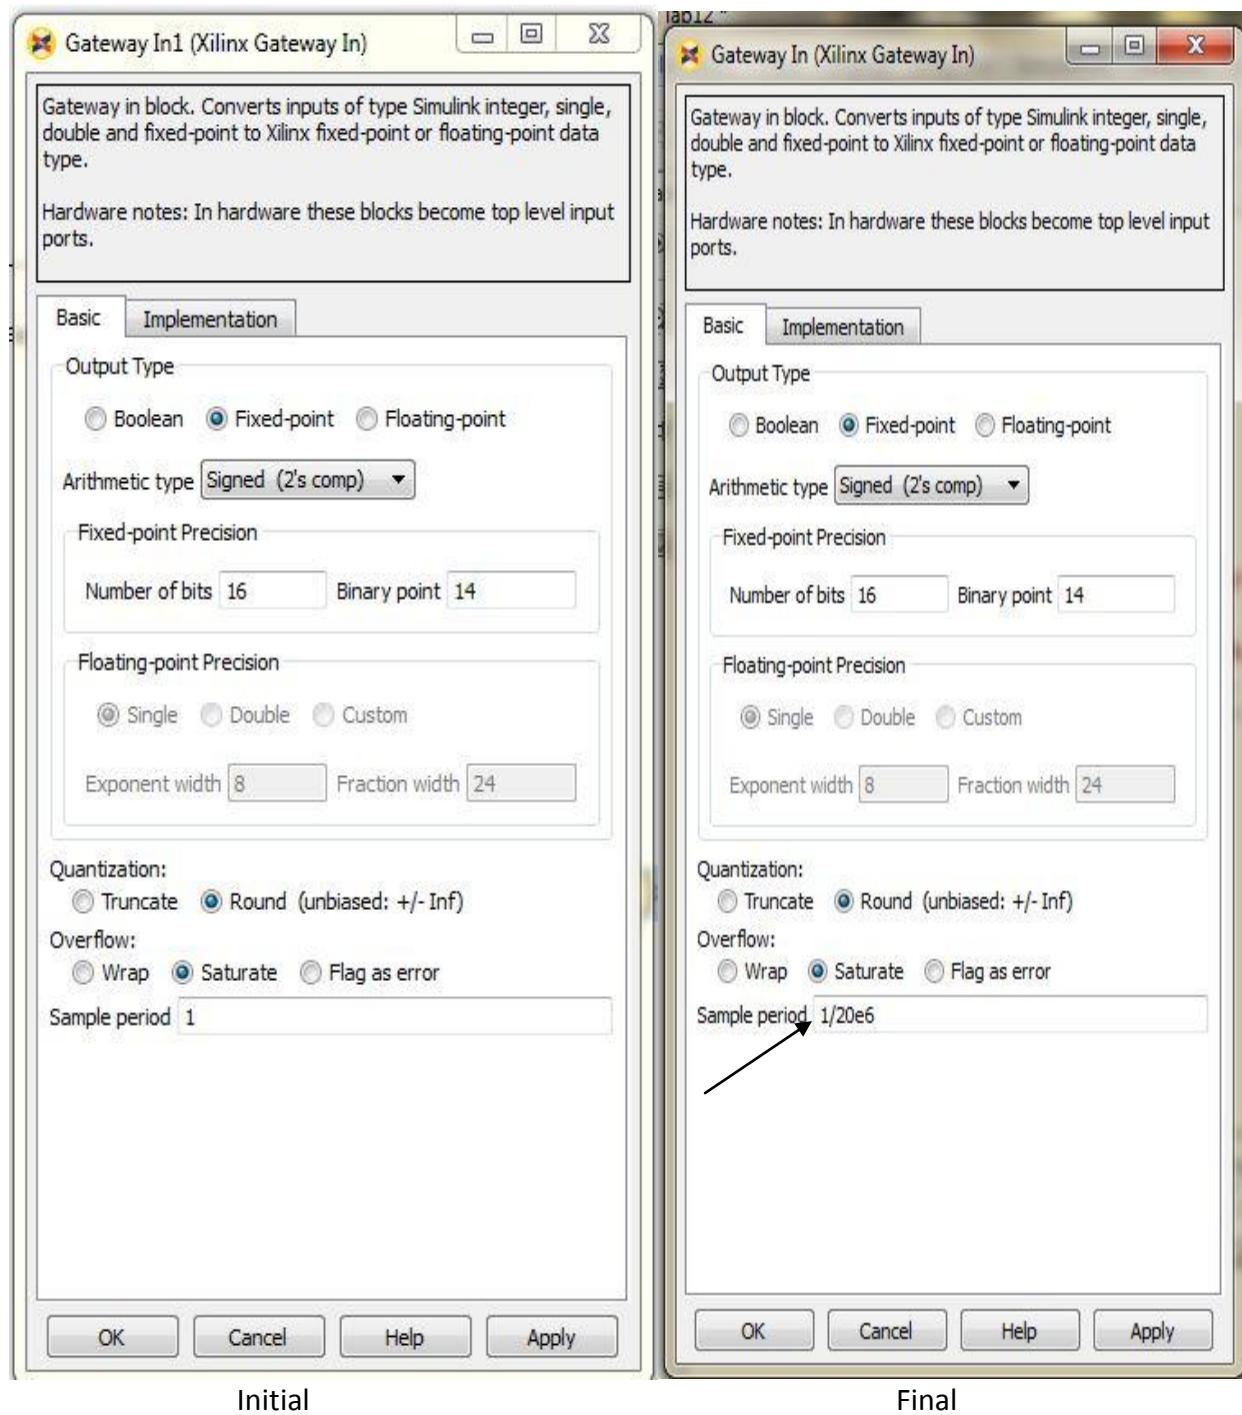
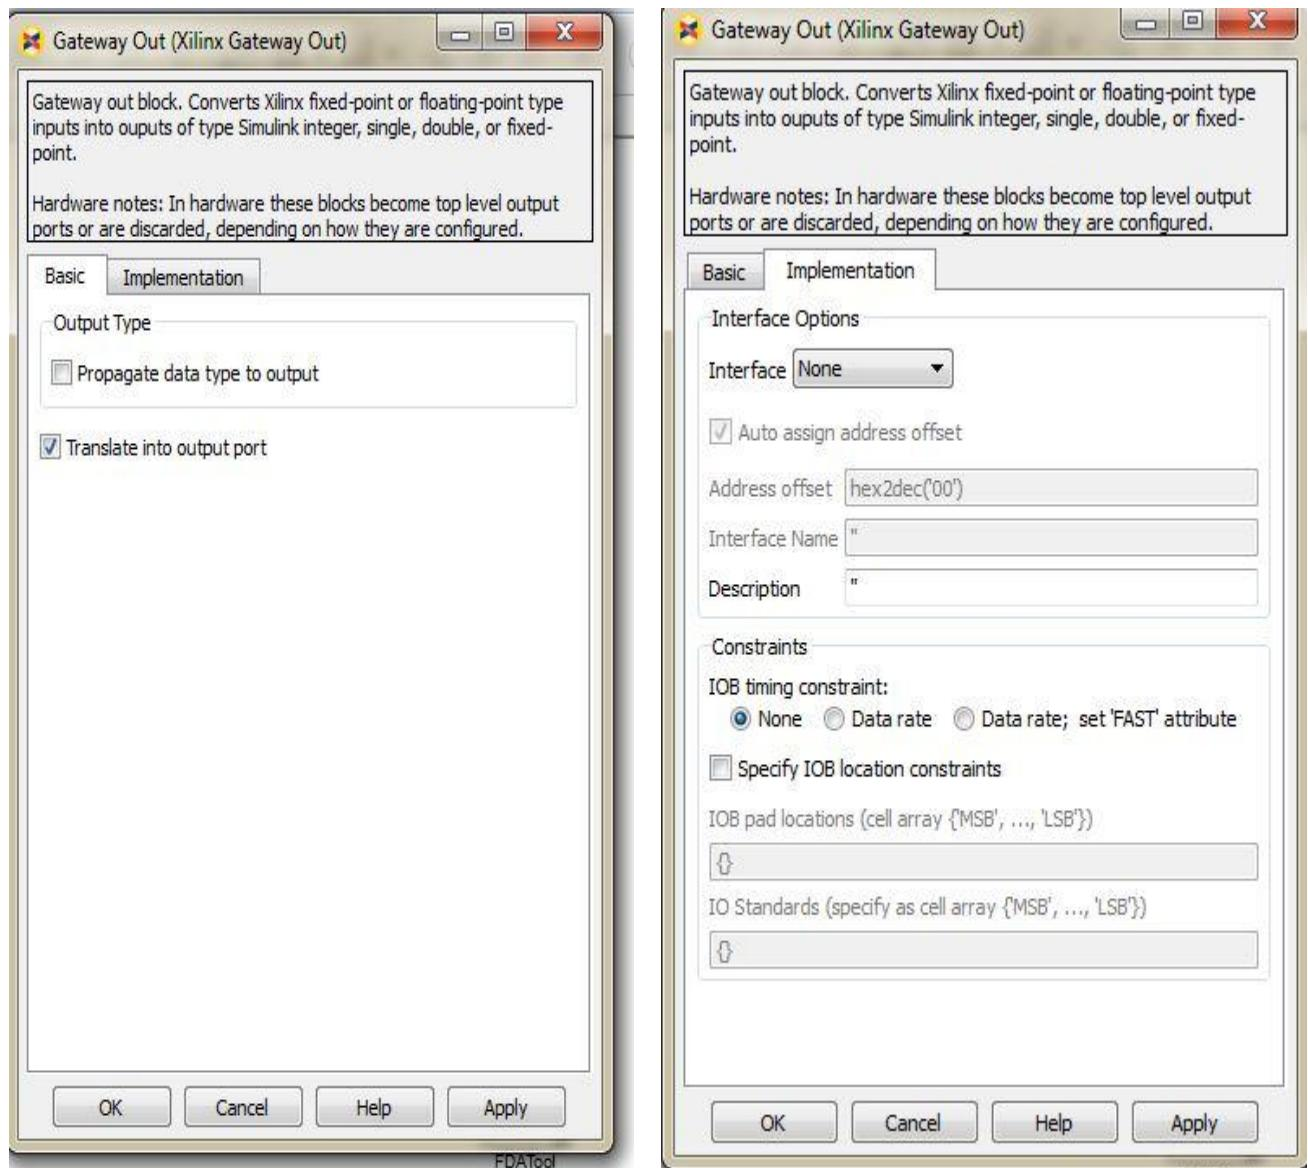

Figure 23 (b): Modifications in Gateway In block.
Figure 24: Gateway Out Block and its properties.
4. Similarly, from the same menu as shown in figure 23 (a), add a **Gateway Out** block to the design and edit its properties as shown in figure 24.